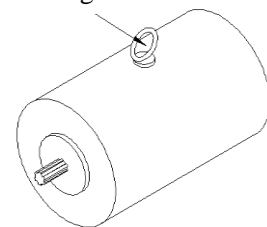

Figure 2-26
(5) Figure 2-26 shows the lifting of the walking motor.